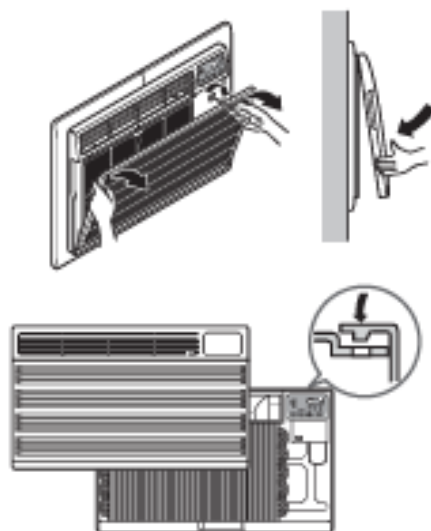

Figure 1
4. Remove the front grille. (See Fig. 1)